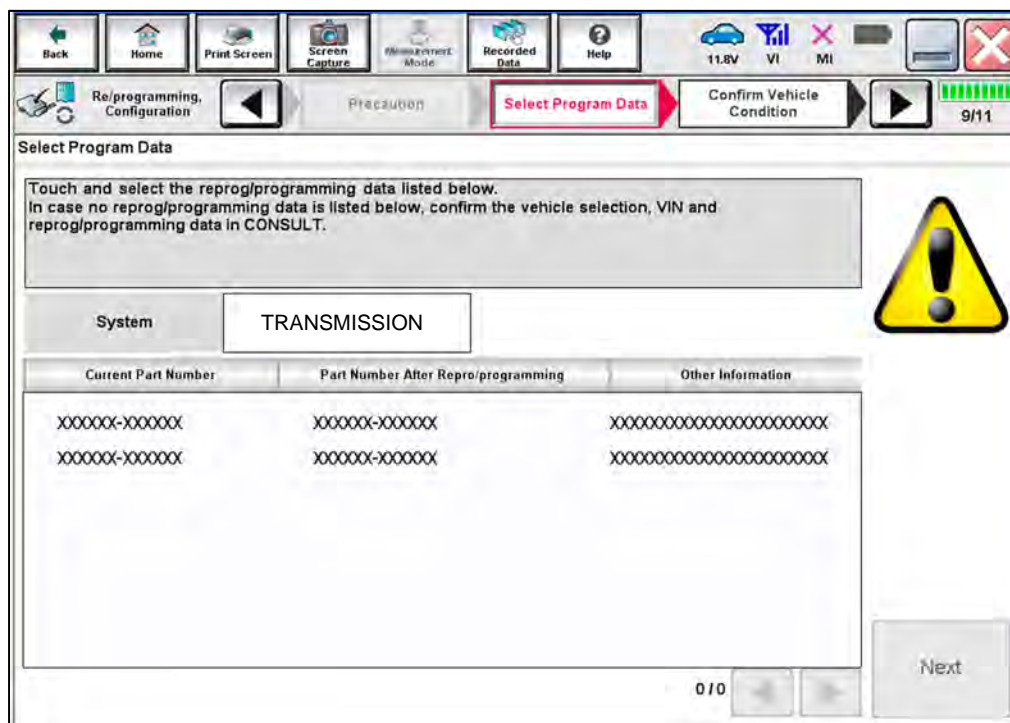

Figure 14
- If more than one new P/N is available, the screen in Figure 14 displays.